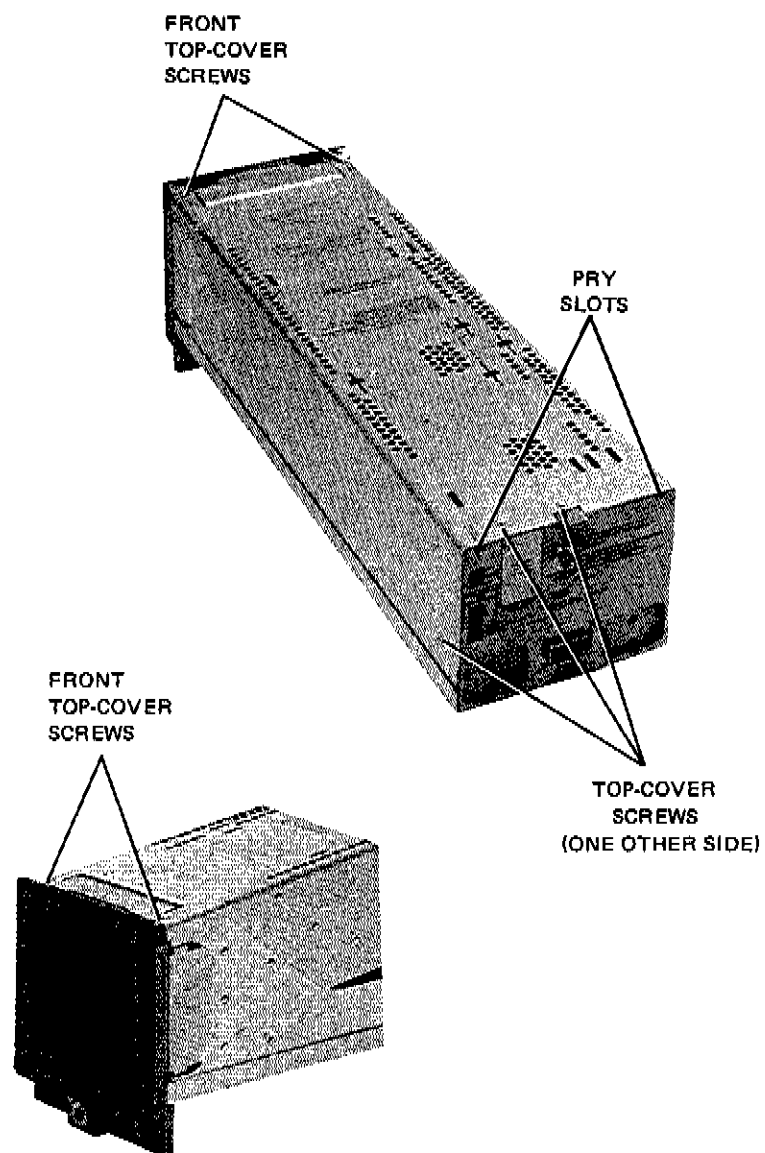

Figure 2. Top Cover Removal and Replacement
1. Remove the six screws holding the top cover (two front top, two rear top, and one each rear side). See Figure 2.
1. Align the cover with the front of the module and insert the two front top-cover screws and tighten until they make contact (See Figure 2).
3. Insert the two rear-top screws and the two rear-side screws. see Figure 2.